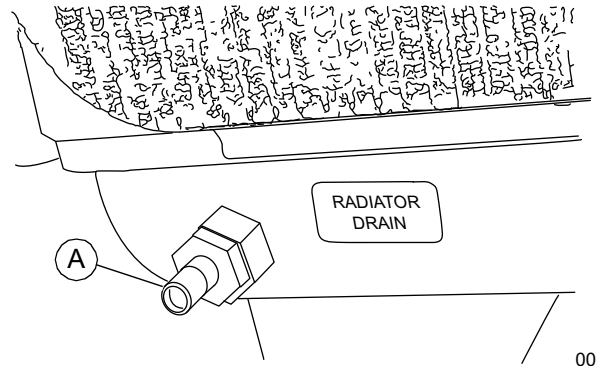

Figure 5-14. Radiator Drain Location
6. See Figure 5-14. Rotate hex fitting to open drain screw (A).